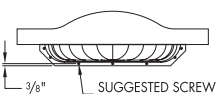

FIGURE 3A
3. Secure the shelf to the tub using drywall screws at the locations suggested (SEE FIGURE 3A). The screws should be approximately 3/8" from the outside edge of the shelf. Make sure that the shelf does not move when driving the screws. Wipe off all excess adhesive.